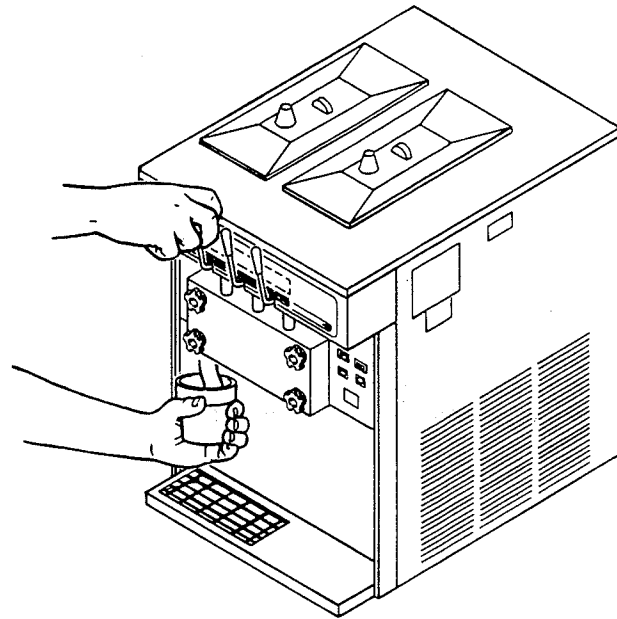

Figure 14. Dispensing Product
- H. For normal dispensing, move the spigot handle open 60° (Fig. 14).